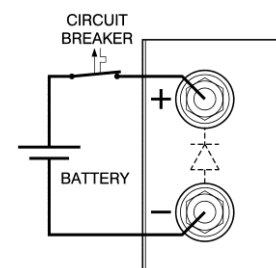

fig 5 - 8
Use a CIRCUIT BREAKER in series in order to protect the power supply from **accidental reverse connection** (see fig. 5 - 8). The circuit breaker should have a DC voltage rating twice the battery voltage. Use the very fast type (Z), a type meant for protecting semiconductors (see table 4 - 2).